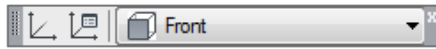

Figure Step 8A
Step 8 Using either the UCS II toolbar or the Home tab ribbon. (Figure Step 8A and 8B)